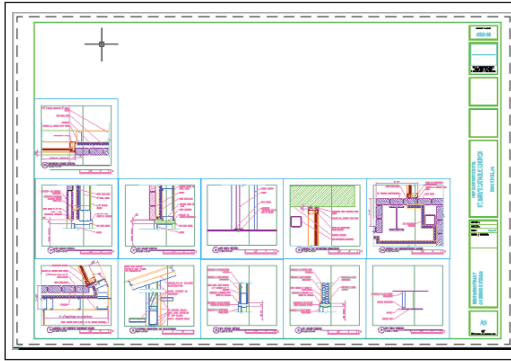

Figure 9
- Drag the detail views into the sheet file in the selected order (Figure 9). The sheet grid in Figure 9 contains a node at